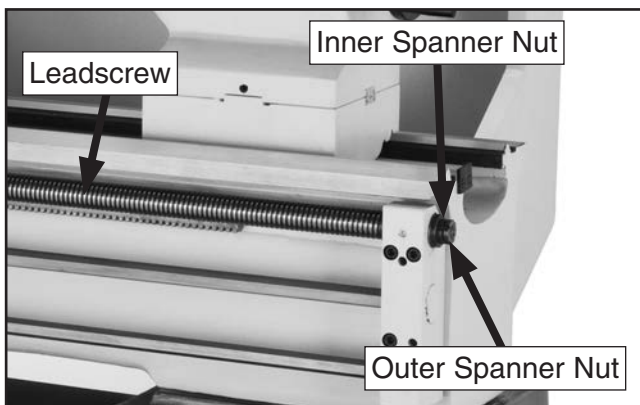

Figure 128. Leadscrew and spanner nuts.
2. Loosen the outer spanner nut (see **Figure 128**).
4. Rotate the carriage handwheel to move the carriage toward the tailstock, then tighten the inner spanner nut (see **Figure 128**) until there is 0.001"–0.002" of end play.